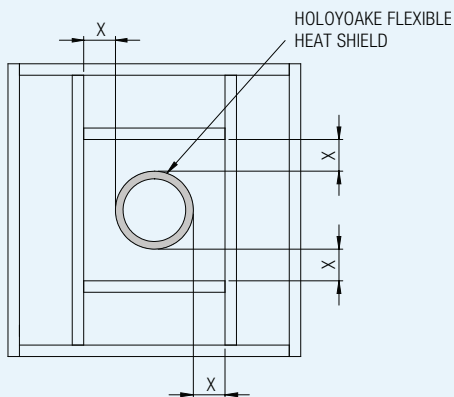

FIGURE 1: NO ADDITIONAL LINING REQUIRED
2. Find the corresponding minimum distance(s) 'X' (depicted below in figure 1) between the dampers heat shield and the surrounding joists/ studs and noggings.
*Note that the remaining joist and noggings conform with figure 1 and so do not require an additional fire rated plasterboard lining.